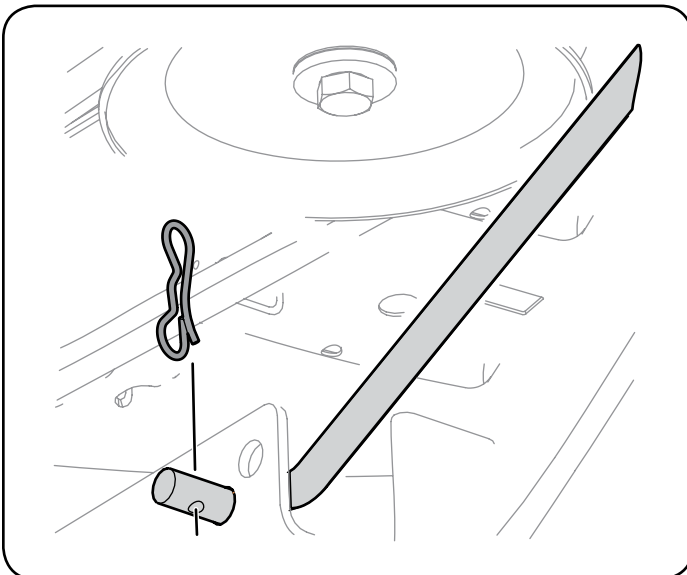

Figure 31
7. Pull the bow-tie pin out of the front deck lift rod securing it to the deck. See Figure 31. Slide the deck lift rod out of the front hanger bracket.